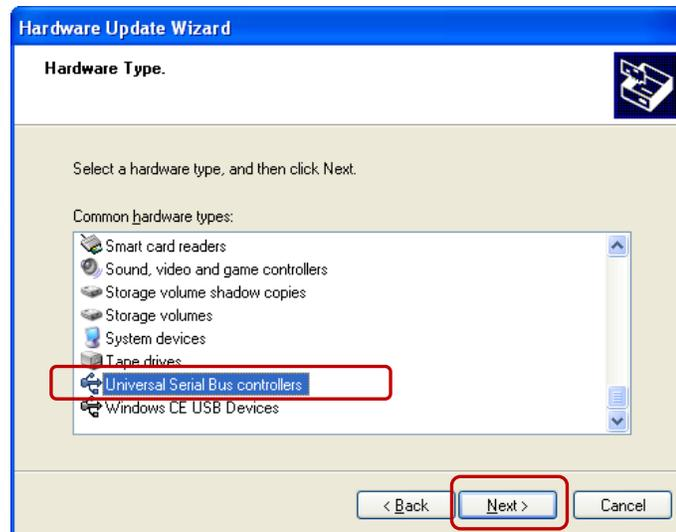

Fig. 21
15. Select Universal Serial Bus controllers and click **Next** (As shown in Figure 21).